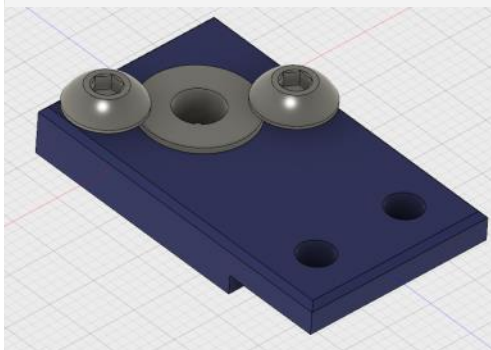

Figure 6
STEP #4— Flip over bearing plate and screw in two (2) M4 button head screws as shown in Figure 6 to the left. Repeat this four (4) times.